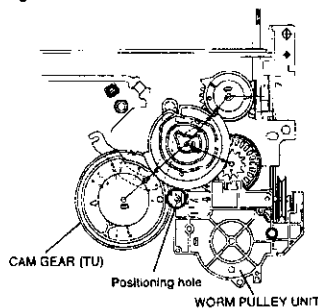

Fig. 4
- 1) Press the CH-UP or CH-DOWN button to align the character "PR" or "FR" of the CAM GEAR (TU) with the positioning hole of the WORM PULLEY UNIT shown in Fig. 4. "PR": Playback position "FR": REW/FF position